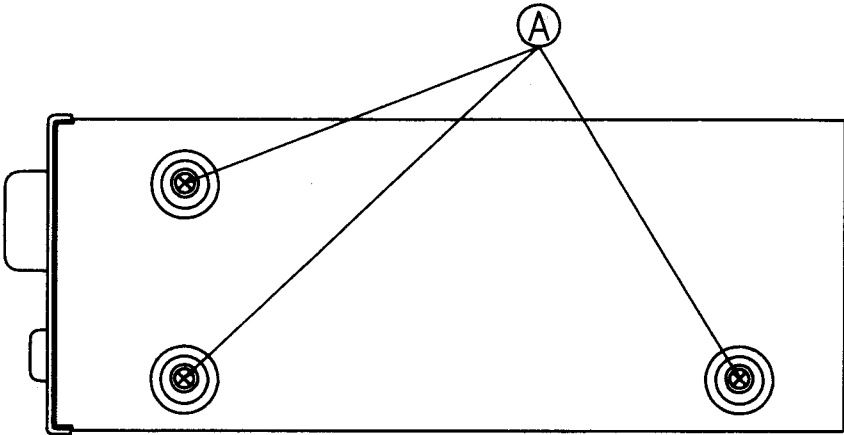

Figure 1
1. Remove 6 screws (A) from the left and right sides of the top cover. (See Figure 1)